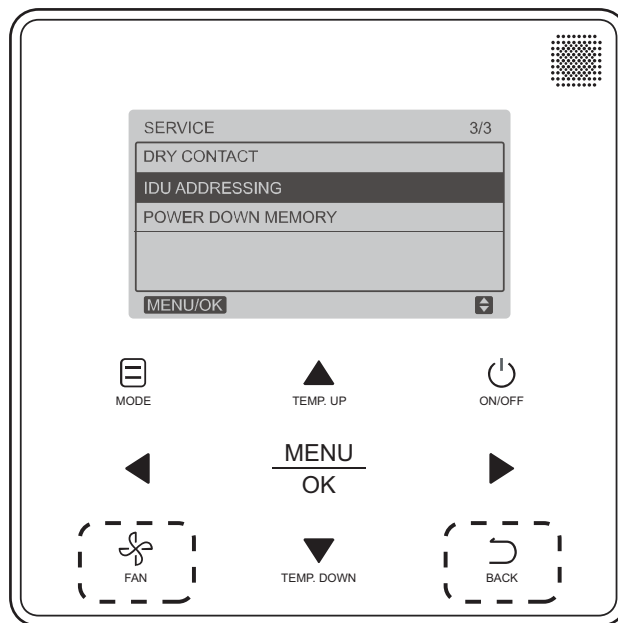

Fig. 27 — Programmable Controller (40VM900003) IDU Addressing Menu
1. Press **FAN** and **BACK** simultaneously for 5 seconds to access parameter settings as shown in Fig. 27.